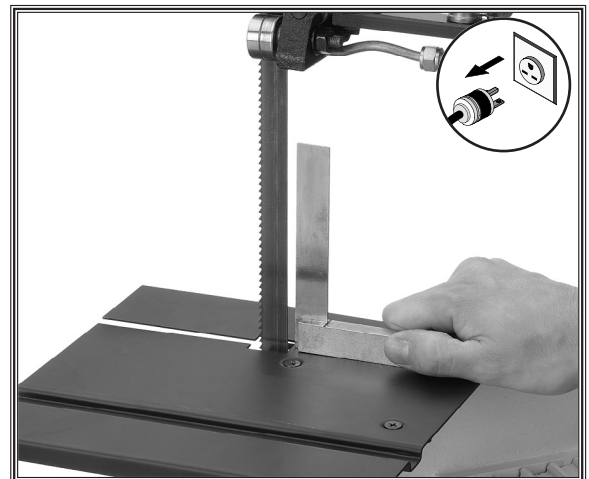

Figure 26. Checking table-to-blade squareness.
6. Place a machinist's square on the table as shown in **Figure 26**, and make sure that the table and blade are square with each other.